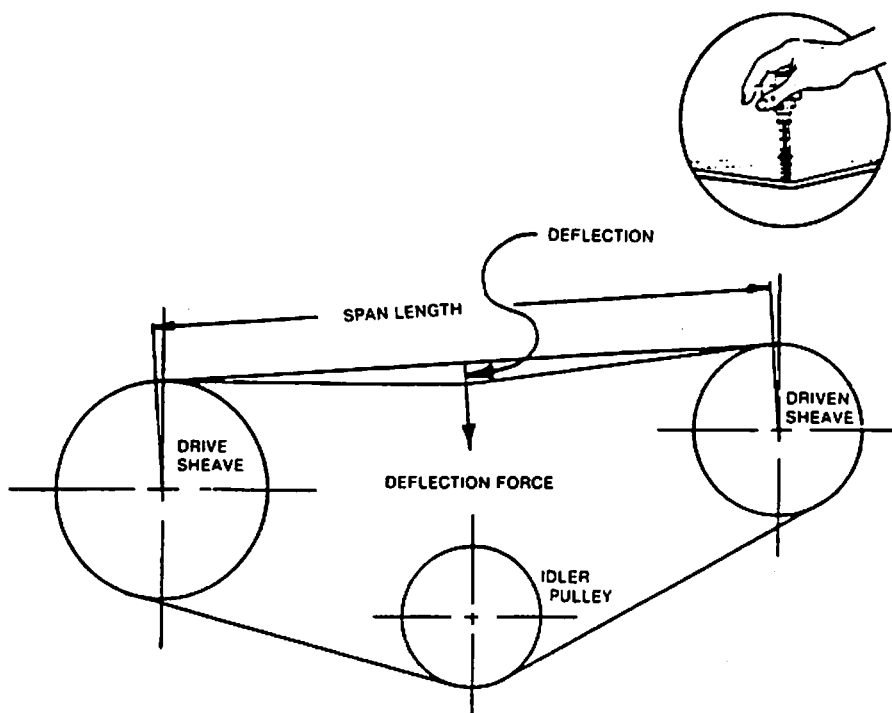

Figure 14
3. At the center of the sheave span, apply a force (perpendicular to the span) by use of a tension tester or other calibrated spring (See Figure 14).